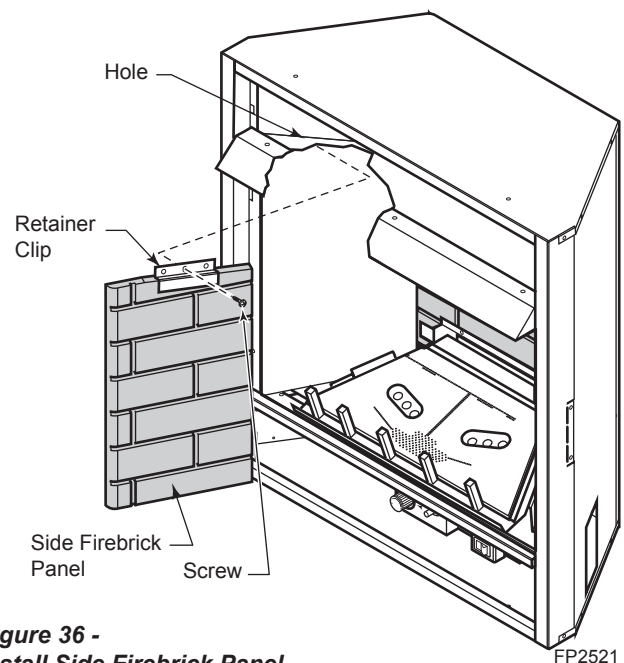

Figure 36 -
5. Place one of the side firebrick panels in cabinet. Line up the hole in the retainer clip with the hole inside the firebox. Using Phillips screwdriver, attach the retainer bracket to inside of firebox. *Figure 36*